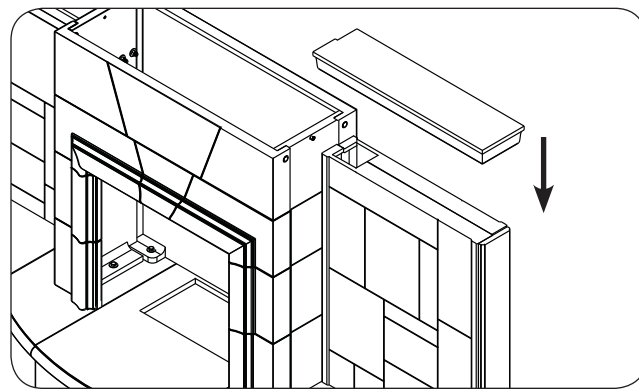

Fig. 20-4 Assemble top side-wall (skip if n/a)
5. Slide the top side-wall piece onto the front and rear side-walls as shown in Fig. 20-4 (no hardware required). This will secure the entire side wall.